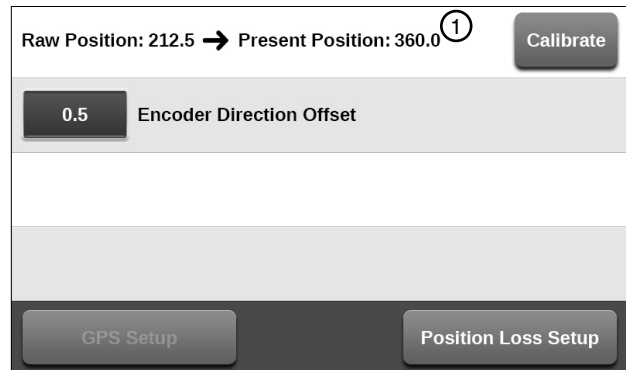

Figure 36-2 Position Screen
3. Push Menu, Setup, Constants, and Position to view the Present Position of the machine. Refer to Figure 36-2.